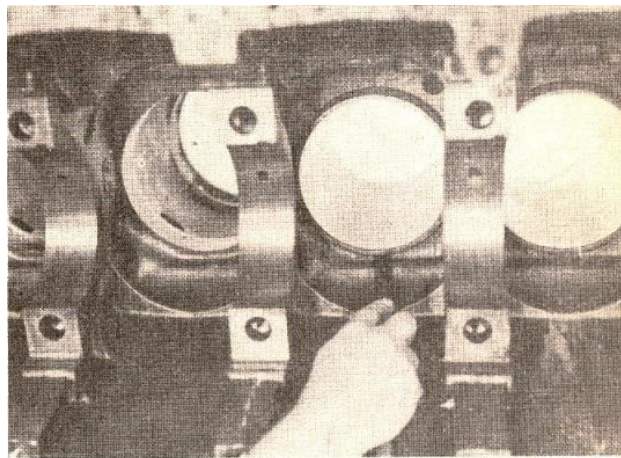

Fig. 1-7. Check the liner to block clearance
3. If clearance do not fall within limits, recheck after counter boring; limits do not apply with cylinder head installed and tightened to operating torque. Check the lower block packing ring bore inside diameter. Fig.1-7.